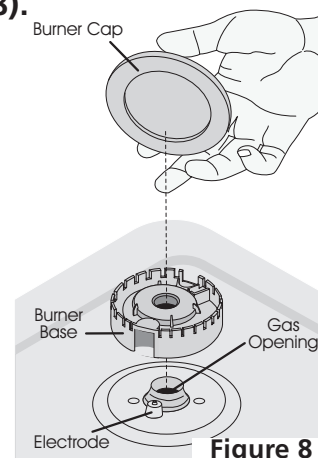

Figure 8
10.1 Install Burner Bases and Burner Caps This range is equipped with sealed burners as shown (see Figure 8).